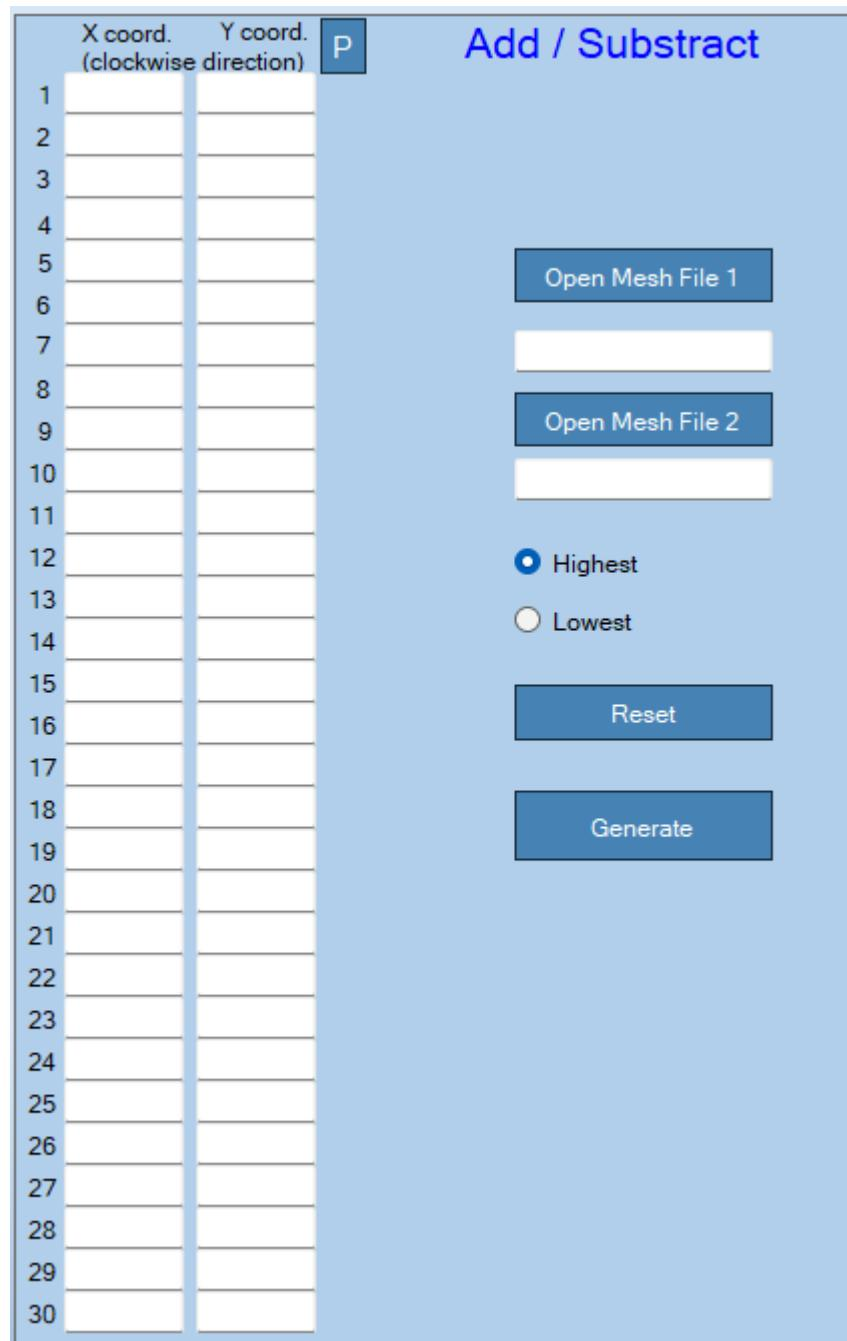

Figure 34: 3D Surfaces Menu – Add / Subtract.
- **3D Surfaces Menu, Add / Subtract Mesh:** This menu option (shown in Figure 34) operates an Addition or Subtraction between two 3D surfaces.